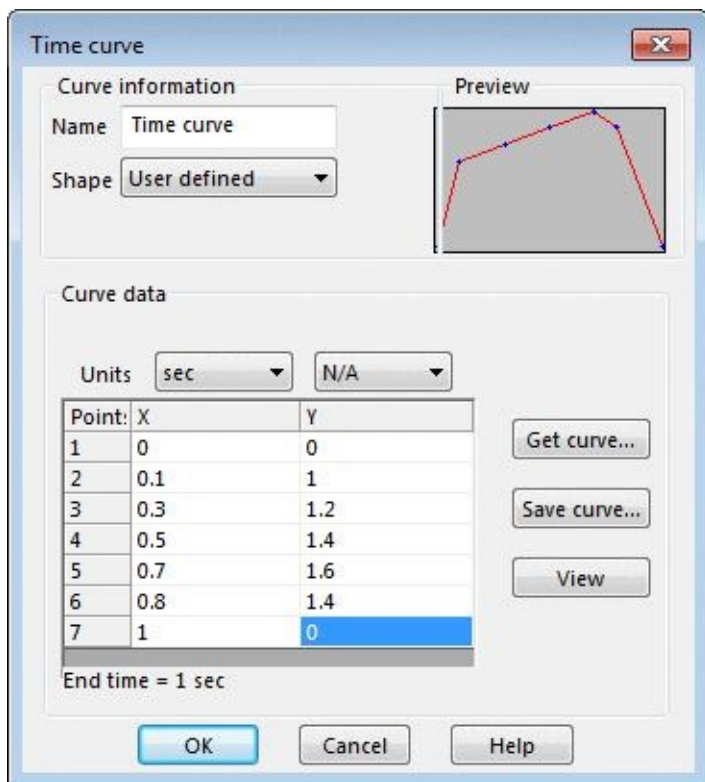

Figure-18. Time Curve for torque
- Click on the **Edit** button from the **Variation with Time** rollout and define the time curve as shown in Figure-18. Note that to add a new row in the table, you need to double-click on the last field under **Points** column in the table.